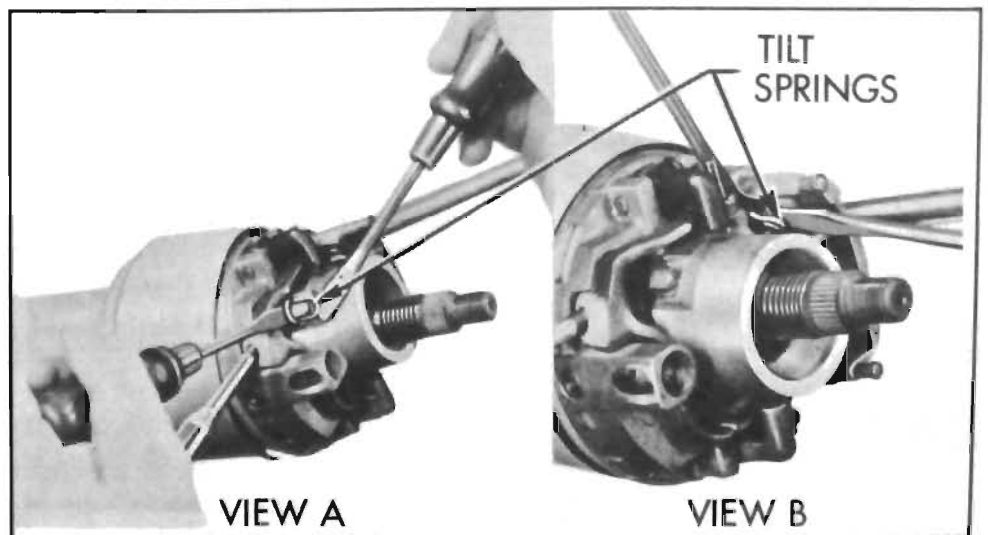

Figure 8-83—Removing Tilt Springs
9. Unhook upper ends of tilt springs by inserting a screwdriver (or Installer J-21181) in top coil of spring and prying upward, then disengage top loop of spring with another screwdriver. See Figure 8-83. View A shows removing spring on left side and View B shows removing spring on right side.